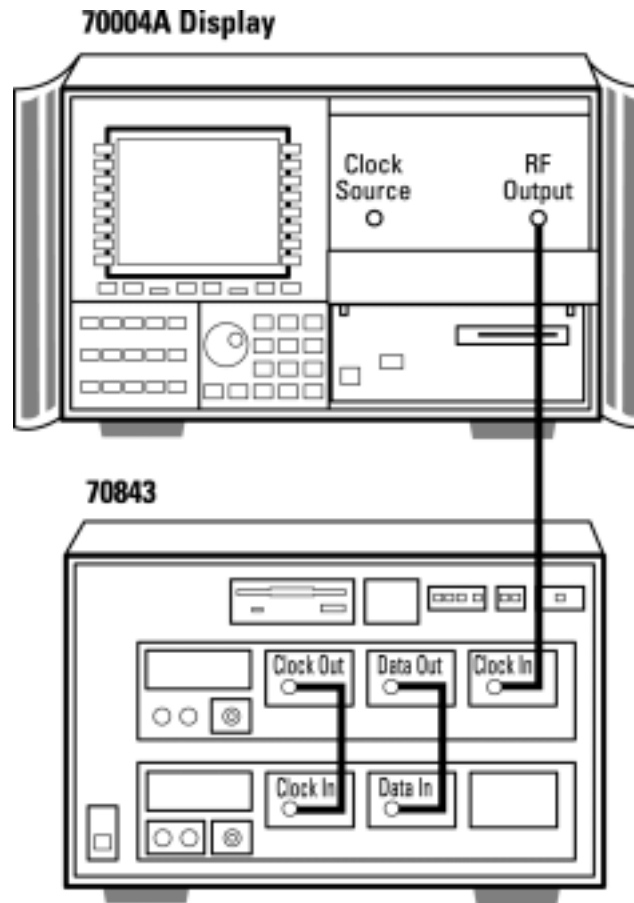

Figure 5-4 System Back-to-Back Connection
2. Connect the pattern generator DATA OUT and CLOCK OUT ports to the error detector DATA IN and CLOCK IN ports respectively. Terminate any unused ports with 50Ω terminations (Agilent part number 1250-2121). See Figure 5-4 on page 5-8. Ensure the Agilent 70843 error performance analyzer and Agilent 70004A display rear-panel HP-MSIB ports are connected.